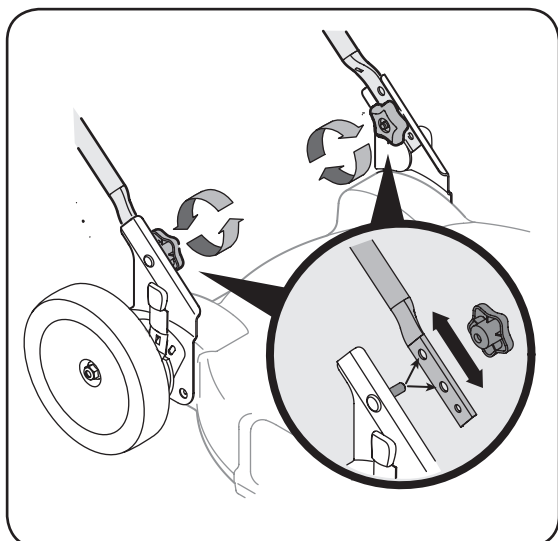

Figure 3
3. If satisfied with height of handle, tighten knobs at the ends of the lower handle shown in Figure 3. For convenience of operating, you may adjust the handle height as follows:
- a. Remove the knobs shown in Figure 3 and remove the lower handle.
- b. Position each handle bracket stud into the top hole in the lower handle. See Figure 3 inset.